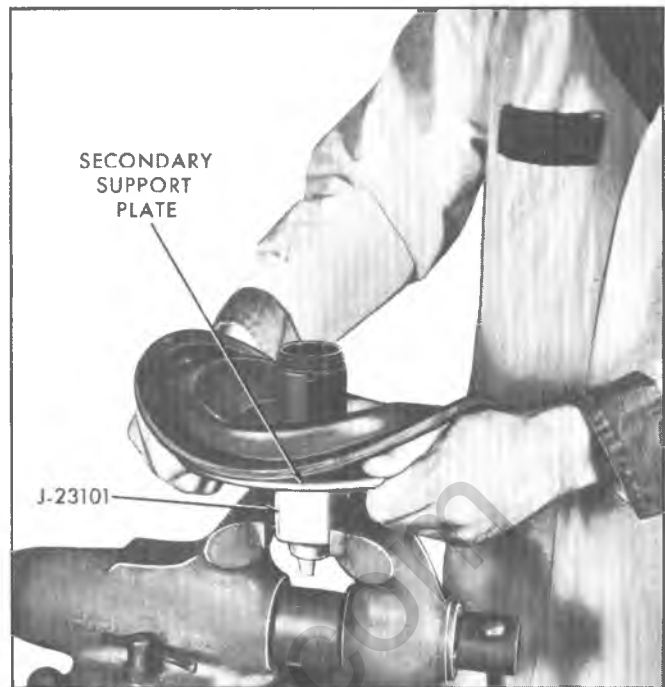

Fig. 6B--Locking or Unlocking Secondary Support Plate and Secondary Power Piston
clockwise to unlock the secondary support plate from the secondary power piston (fig. 6B).
23. Grip the edges of the secondary support plate, press down, and rotate counterclockwise until the tabs on the secondary power piston contact the stops on the support plate. Fold the secondary diaphragm back into position on the secondary support plate. Leave the secondary power piston assembly on Tool J-23101 in the vise (fig. 6B).